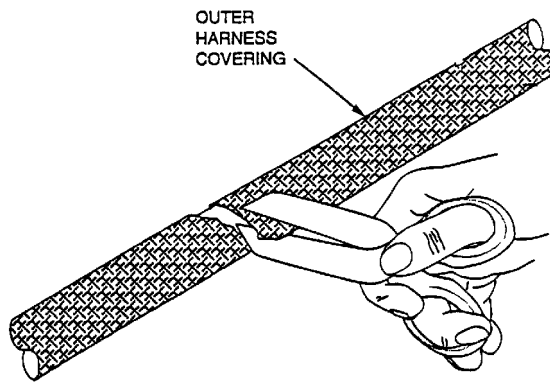

Figure 30. Overbraid Trimming
- j. Cut lacing cord securing outer harness covering, milk both ends as close together as possible. Using scissors trim frayed areas to allow for smooth repair (Figure 30).